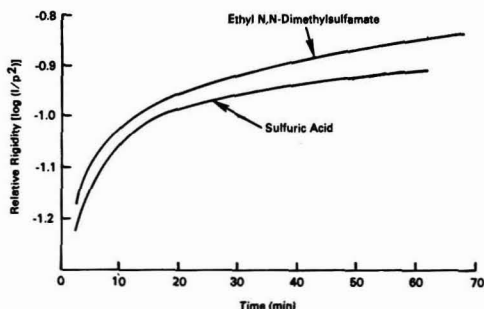

Figure 9—Curing profile at 121°C of Resin B with various catalysts at 2.0% level
Ethyl N,N-dimethylsulfamate is fully active as an acid catalyst at 121°C as revealed in Figure 9. The hydrolyzed form (sulfuric acid) (6) gives a rate of cure and relative rigidity that is nearly the same as EDMS itself. EDMS must therefore be already rearranged and hydrolyzed during the initial stages of cure. Consequently, at 121°C the rate determining step in the curing of water-borne resins using EDMS as a catalyst is not the generation of acid from the sulfamate, but rather the curing reaction itself between the acrylic resin and the melamine.